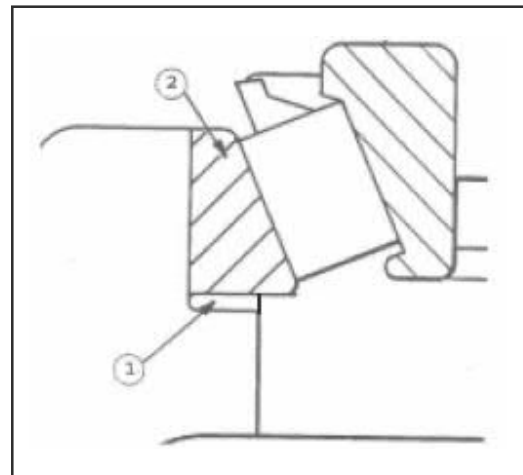

Fig. 20
7. After selecting the shim, remove the tool assembly from centre housing and the Cup Bearing. Fit the selected shim (Item1 in Fig. 20) behind the Cup Bearing (Item 2 in Fig. 20) on the Axle Housing right-hand in the usual manner.